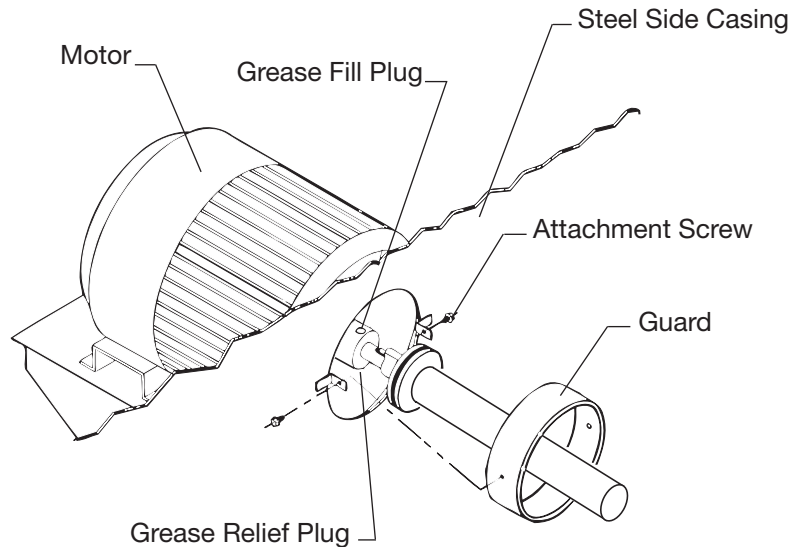

Figure 4
1. Remove guard as shown in **Figure 4**. Opposite end motor bearing is accessible from outside the tower.